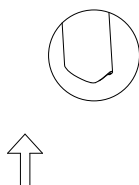

Figure 7.1
7. Route the sensor cable fitted to the Upright Tube (Part 04) through the Upright Tube Assembly (Part 01), then connect the cable to the Electronic Display (Part 14), as shown in Figure 7.1.